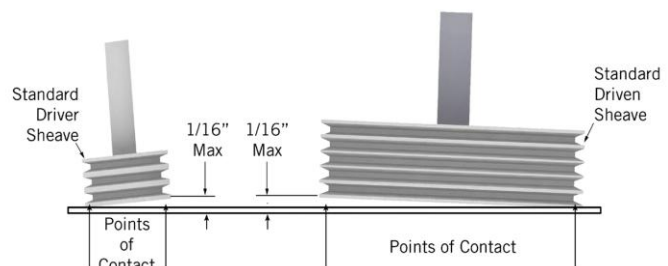

Figure 4. Drive Alignment
- b. Place a straight edge across the driver and the driven sheaves as shown in **Figure 4**.
- c. The straight edge should contact all four points as shown in **Figure 4** indicating proper drive alignment.